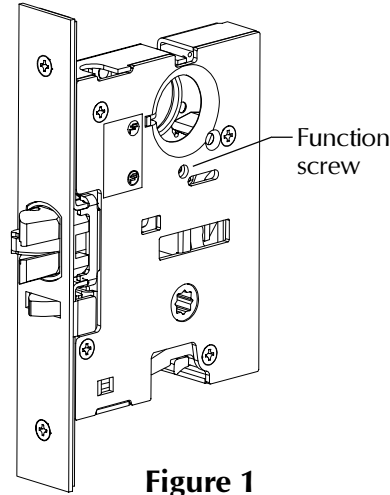

Figure 1
4. For L function trim only, turn mortise lock function screw all the way in (Figure 1).